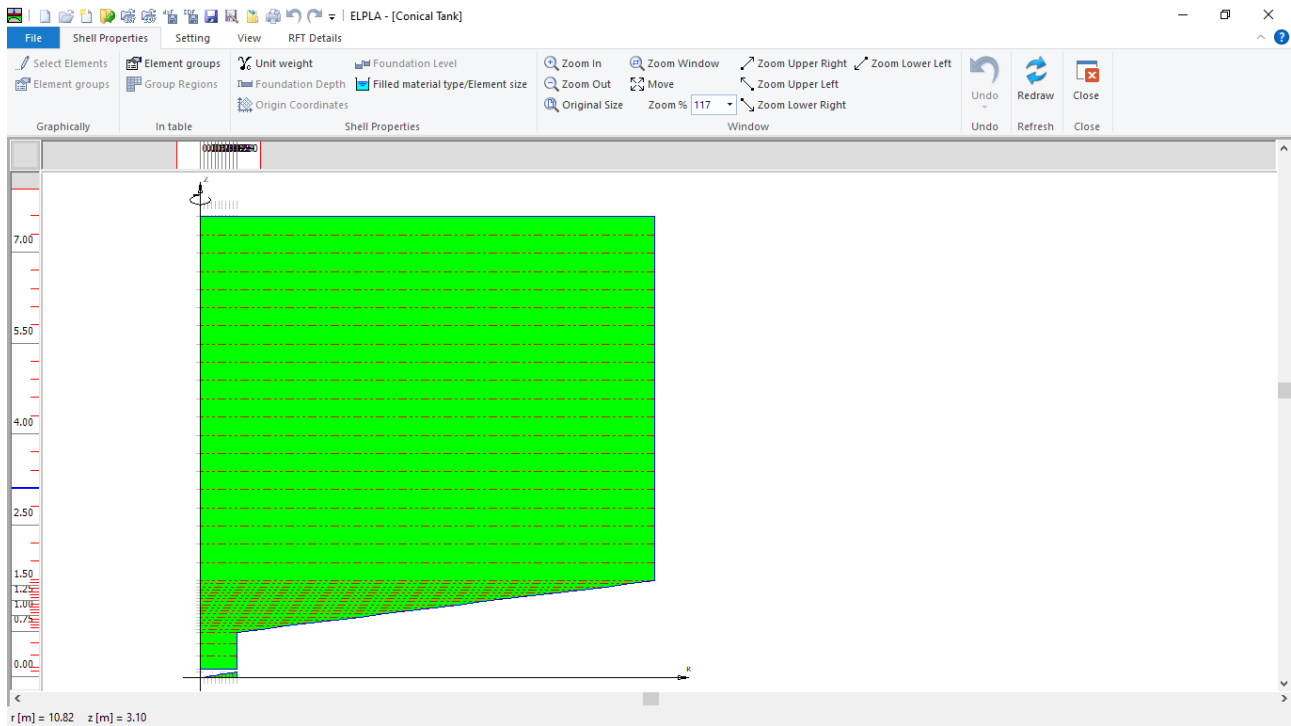
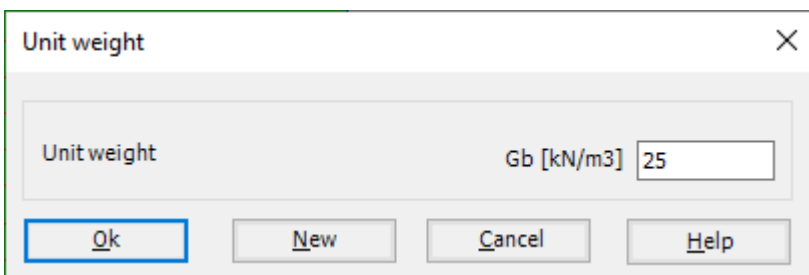

Figure 7.12 "Shell Properties" Window
Figure 7.14 "Unit weight" dialog box
To define the tank properties, choose "Shell Properties" command from "Data" Tab. The following window in Figure 7.12 appears with default shell properties. The data of shell properties for the current example, which are required to be defined, are element groups, unit weight of the tank, and the filled material properties.
To enter the unit weight of the tank, choose "Unit weight" command from "Shell Properties" menu in Figure 7.12. The following dialog box in Figure 7.14 with a default unit weight of 25 [kN/m3] appears, click "OK" button.
To define the filled material properties of the tank, choose "Filled material type/Element size" command from "Shell Properties" menu in Figure 7.12. The following form in Figure 7.15 appears.
- Choose "Save" command from "File" menu in Figure 7.12 to save the shell properties
- Choose "Close" command from "File" menu in Figure 7.12 to close the "Shell properties" window and return to *ELPLA* main window